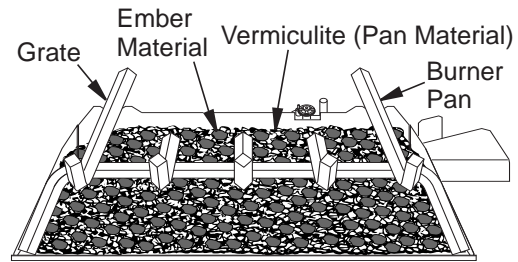

Figure 21 - Ember Material on Surface of Pan Material (Vermiculite)
3. Remove ember material from bag and flatten small amounts into quarter size pieces and lay on top of surface of pan material (see **Figure 21**).